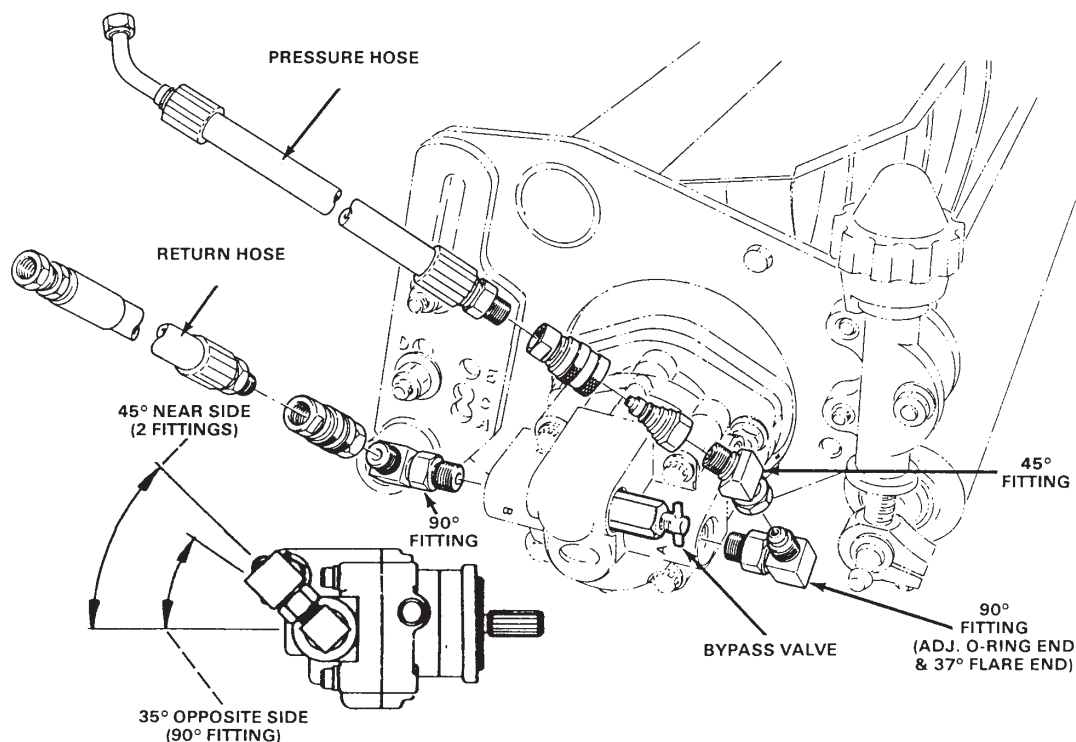

Figure 2
4. Identify the correct fitting locations and position for the center cutting unit by referring to Figure 2.
5. Disconnect the pressure and return hoses from the machine at the locations shown in figure 2.